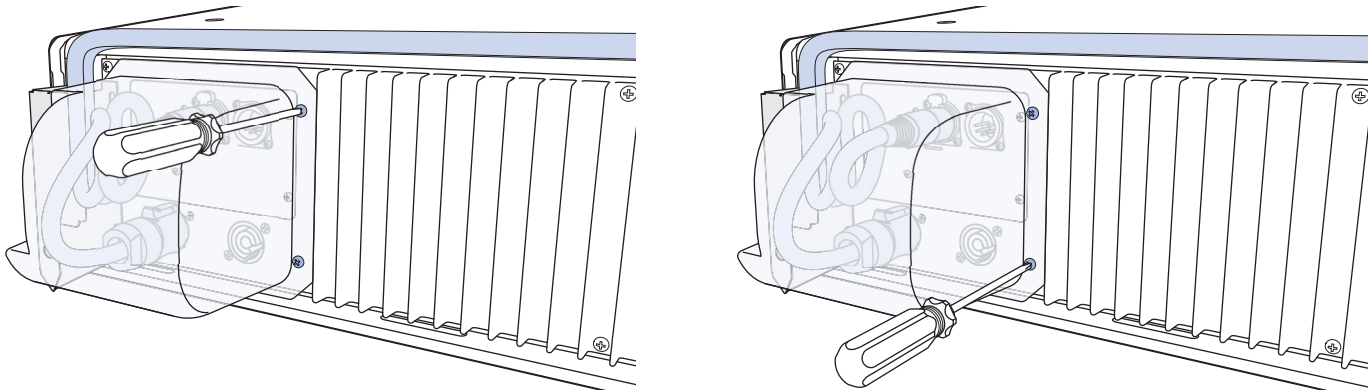

Figure 5: Tightening Screws on Right Side of Rain Hood
9. Tighten the upper and lower screws on the right side of the rain hood (Figure 5).